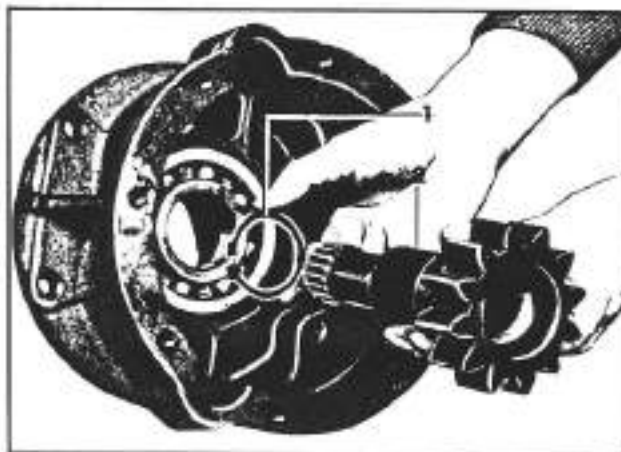

Fig. 3-61. Removal of the reduction gear shaft
- Take off the retaining ring (1; fig. 3-61), located on the opposite side of the bearing, and take out the reduction gear shaft (2; fig. 3-61).